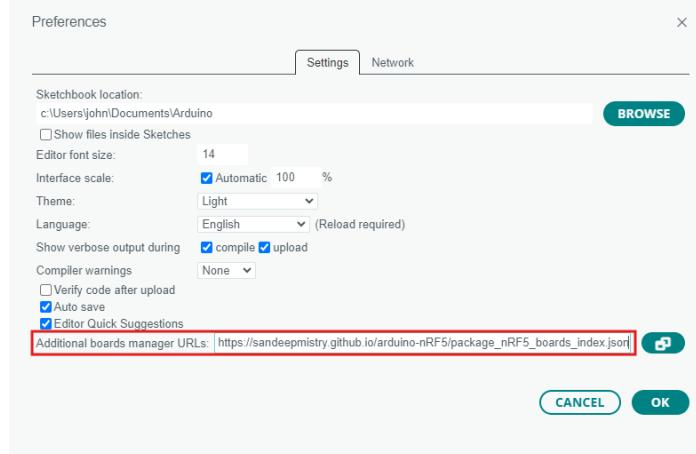

Figure A.5: preferences scherm.
1. Ga naar File → Preferences, en zet bij Additional boards manager URLs: de URL https://sandeepmistry.github.io/arduino-nRF5/package_nRF5_boards_index.json zoals in figuur A.5 te zien is.